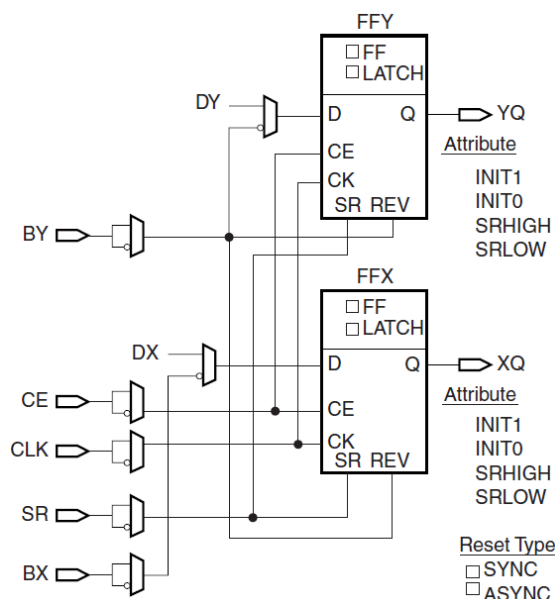

Figure 12 Register/Latch Configuration in a Slice
The storage elements in a BQR2V3000 slice can be configured as either edge-triggered D-type flip-flops or level-sensitive latches. The D input can be directly driven by the X or Y output via the DX or DY input, or by the slice inputs bypassing the function generators via the BX or BY input. The clock enable signal (CE) is active High by default. If left unconnected, the clock enable for that storage element defaults to the active state. In addition to clock (CK) and clock enable (CE) signals, each slice has set and reset signals (SR and BY slice inputs). SR forces the storage element into the state specified by the attribute SRHIGH or SRLOW. SRHIGH forces a logic “1” when SR is asserted. SRLOW forces a logic “0”. When SR is used, a second input (BY) forces the storage element into the opposite state. The reset condition is predominant over the set condition (Figure 12). The initial state after configuration or global initial state is defined by a separate INIT0 and INIT1 attribute. By default, setting the SRLOW attribute sets INIT0, and setting the SRHIGH attribute sets INIT1.